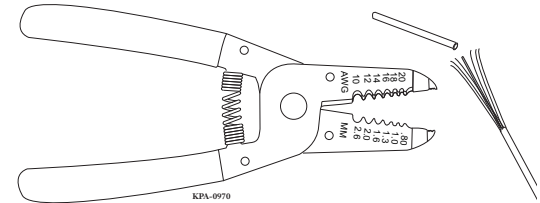

Figure 27 — Strip Outer Jacket
Step 3: Refer to Table 2 on page 9, for the correct AWG opening for the cable being used and strip off the 40 mm section of outer jacket with the Jacket Stripping Tool (Figure 27).